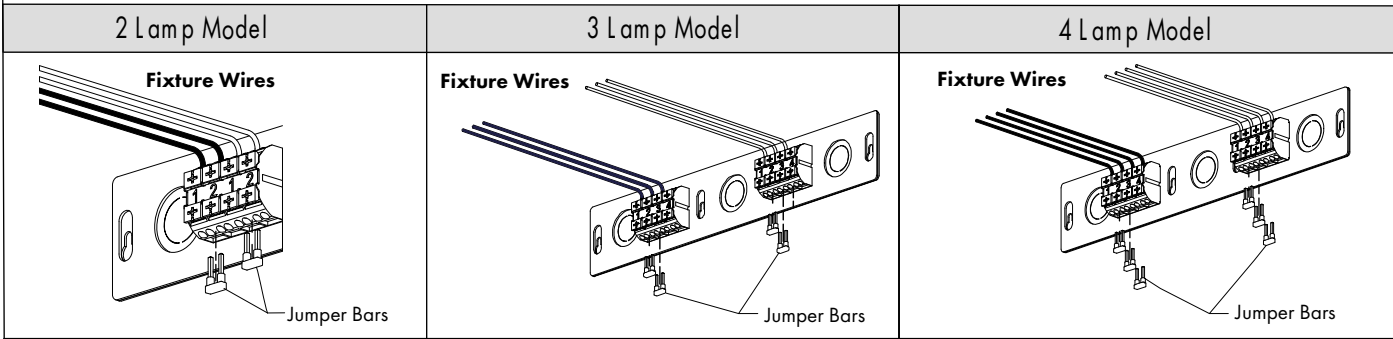

FIG 6.1 Remove Jumper Bars
1. Remove jumper bars from terminal blocks as needed for individual lamp control - FIG 6.1.